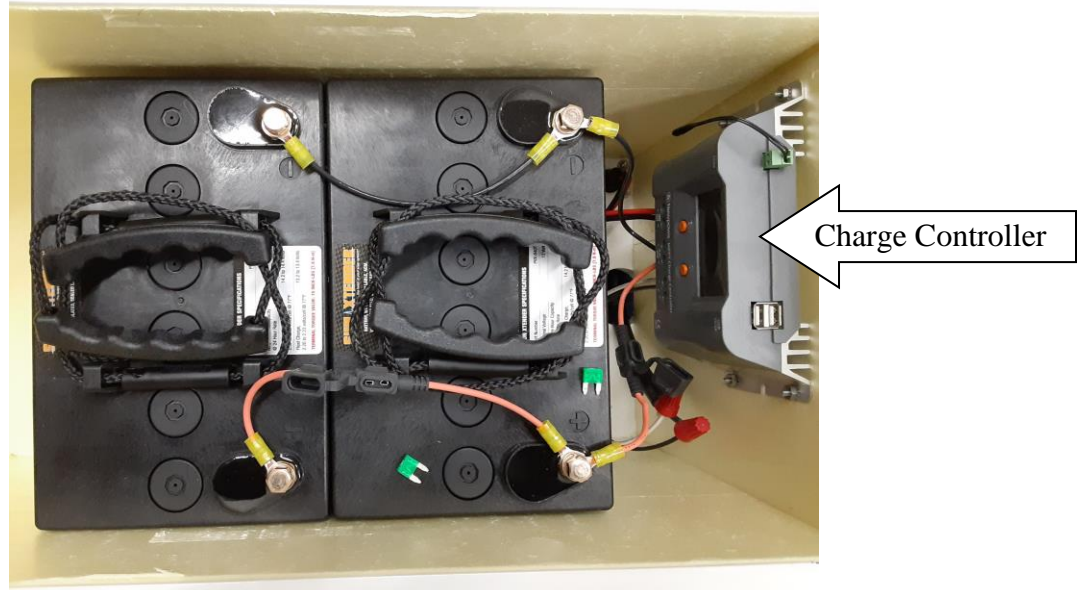

Figure 6. Battery Installation
4. Place the batteries in the battery enclosure, with the battery connection posts towards the charge controller, as shown in Figure 6. The batteries are installed as close as possible to the charge controller, snugly against the battery stop in the floor of the battery enclosure.
12. Connect the black wire from the first battery to the negative terminal of the second battery, as shown in Figure 6.